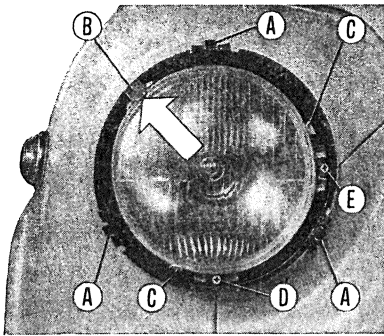

Fig. 452 - Headlamp in position, with rim removed (Sedan starting from serial No. 842100).
Remove the headlamp rim, press fitted on three spring fasteners (A, fig. 452).
To aim the light beam vertically (inclination), work on screw (D, fig. 452), and horizontally (divergence), work on screw (E).